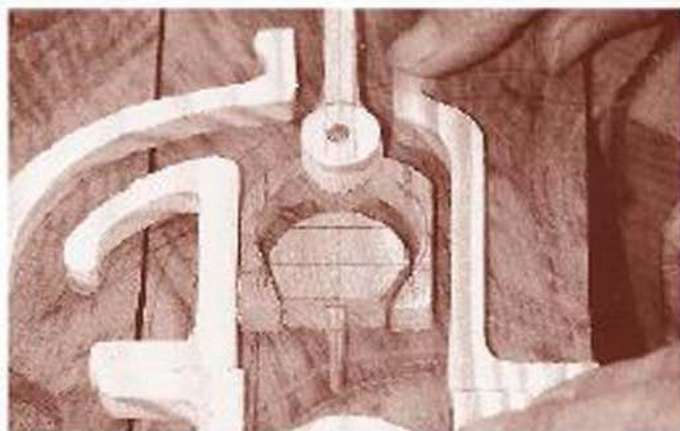

FIGURE 24-5
- 2** Cut out the rods on your scroll saw, drill holes through the pivot centers, then check the fit of everything (Figure 24-5).